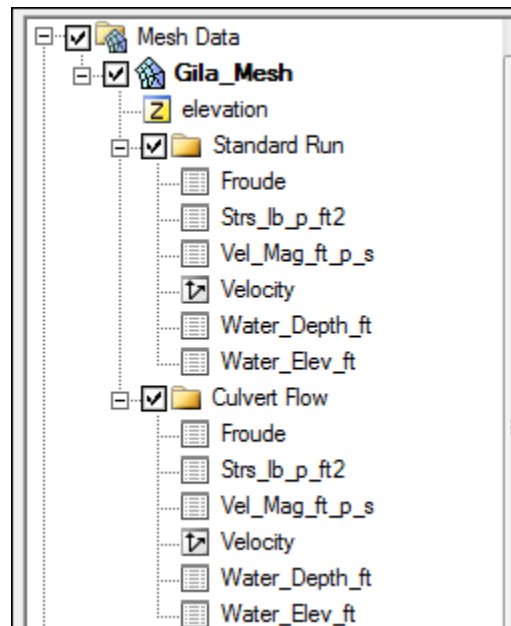

Figure 9 Mesh Dataset Organization
4. Drag the selected datasets below the “Culvert Flow” folder that was created in steps 1 and 2. The datasets should be organized as shown in Figure 9.